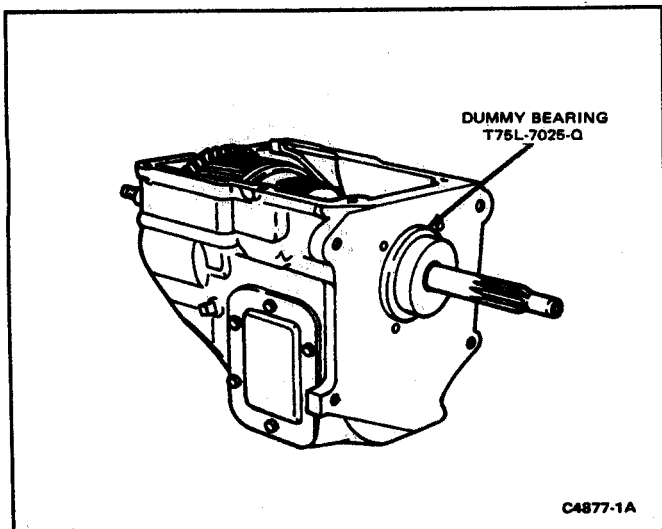

FIG. 15 Installing Dummy Bearing
11. Install a dummy bearing (Tool T75L-7025-Q) on the transmission input shaft as shown in Fig. 15. This tool is necessary to keep the input and output shafts in alignment when installing the output shaft bearing.